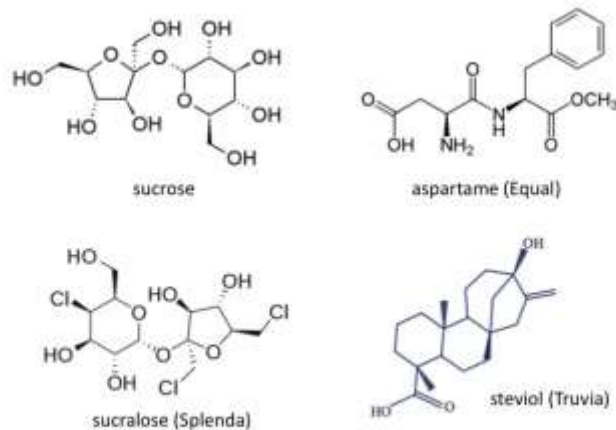

Figure 1. Chemical structures of nutrient molecules.
Artificial sweeteners are molecules that are derived from sugars structurally modified to elicit a sweet taste, but that do not present a significant calorie load. Two basic strategies are employed: either the sweetener is made so that it cannot be metabolized, or it is modified to have an extremely sweet taste so that only a very small amount is needed. The question for this lab is whether yeast metabolize artificial sweeteners in the same manner as they do natural sugars (or sucrose)? To approach this problem, we will compare the CO₂ production of yeast in response to sucrose and three other sweeteners. As shown in Figure 1 below, the sweetener **Splenda (or sucralose)** is chemically derived from sucrose, but it is 600 times sweeter and is actually structurally distinct from sucrose in that it contains 3 chloride (Cl) atoms and 5 hydroxyl (OH) groups whereas sucrose lacks Cl atoms and has 8 hydroxyl groups. **Equal (or aspartame)** is chemically structurally more similar to sucrose, with the exception of a methyl ester bond (OCH₃), and is also 100-150 times sweeter. The natural sweetener **Truvia (or steviol)** was originally derived from the Stevia plant. Although very little is known about its metabolism in the human body, it is observed to be 300 times sweeter than sucrose and is structurally very different.